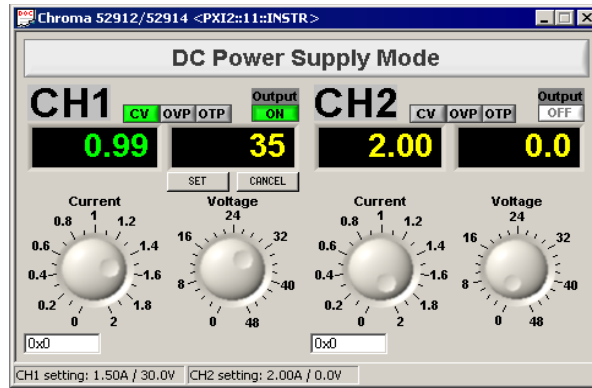

Figure 4-9 Channel 1 Output condition II
5. You can manually enter a new value for voltage or current during measurement. After the value is entered, click on  to output the value, or click on  to return to the original readings. (See Figure 4-9)